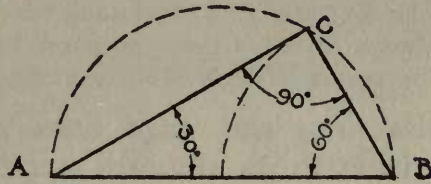

Fig. 14.
The resulting triangle has angles of  $30^\circ$ ,  $60^\circ$ , and  $90^\circ$  as shown in Fig. 14. Why?
- (1) The angle that the diagonal of a square makes with its sides is an angle of  $45^\circ$ .
- (2) Look up Fig. 14, Chapter II, and see if you can apply the figure so as to use the steel square to set for a  $30^\circ$  angle.